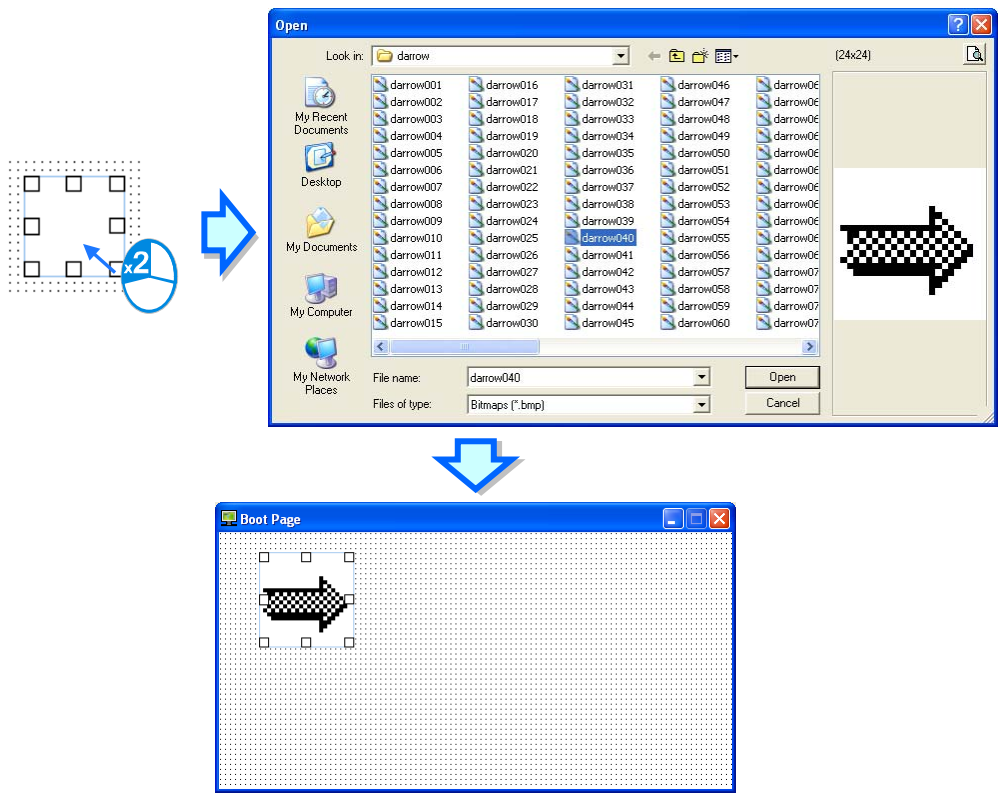

Figure 6-10 Selecting a static image
- Step 3: After the users double-click   in the **Boot Page** window, the **Open** window will appear. The users have to select a .bmp file in the **Open** window. After the users click **Open** in the **Open** window, an image will be inserted in the **Boot Page** window, as shown in Figure 6-10.